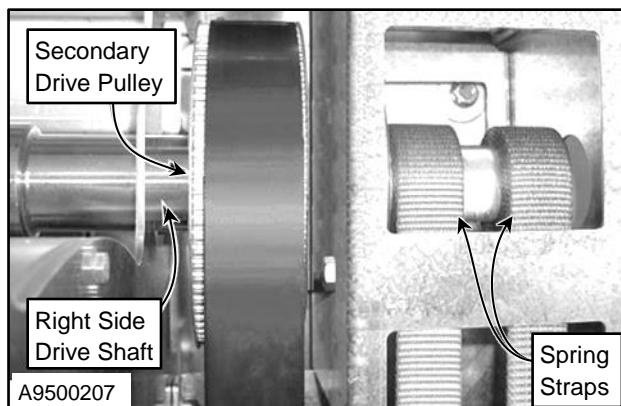

Figure 30
- Inspect the hardware used to attach the secondary drive pulleys to the left and right drive shafts. Tighten the hardware as required. Replace any missing or damaged hardware. (See Figure 30)
- Inspect the clamp plate securing the upper end of each spring strap to its respective drive shaft. Tighten the hardware as required. Replace any missing or damaged hardware. (See Figure 30)